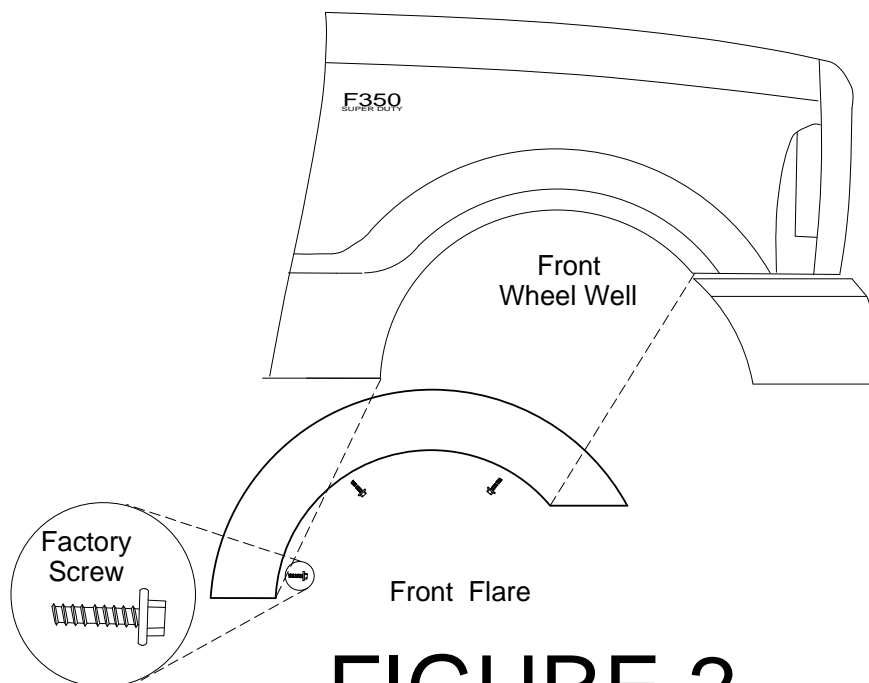
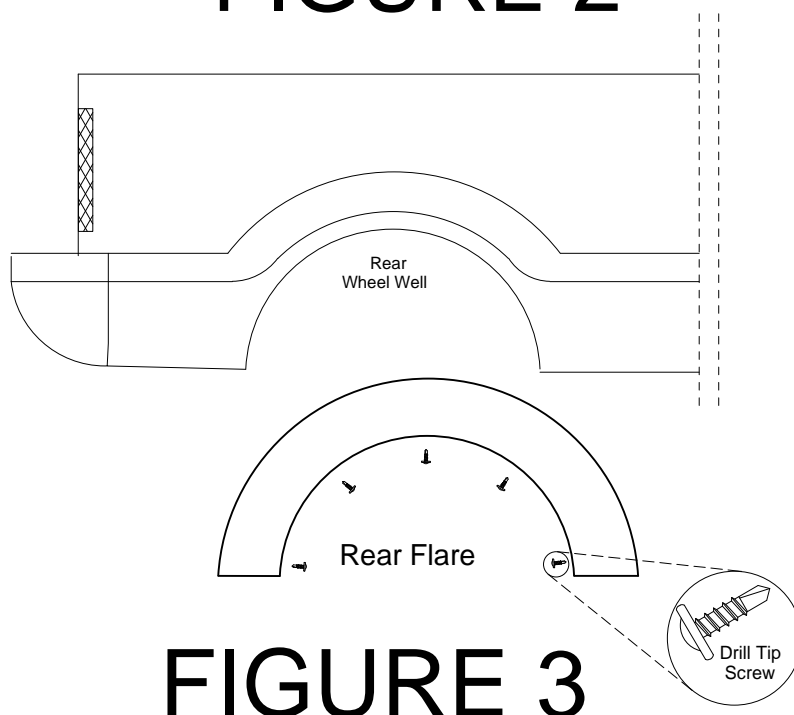

FIGURE 2
FIGURE 3
- (A) Pre-drill all flares with a 3/16" drill bit using the indents formed into the flare as a guide.
- (B) Remove the three factory screws from front wheel well using the 7/32" socket.
- (C) Holding front flare in place on fender, secure with factory screws through holes drilled in flare.
- (D) Applying moderate pressure to the outside surface of the rear flare, fasten with five kit supplied drill tip screws using the holes in the flare as a guide. **See FIGURE 2 and FIGURE 3.**